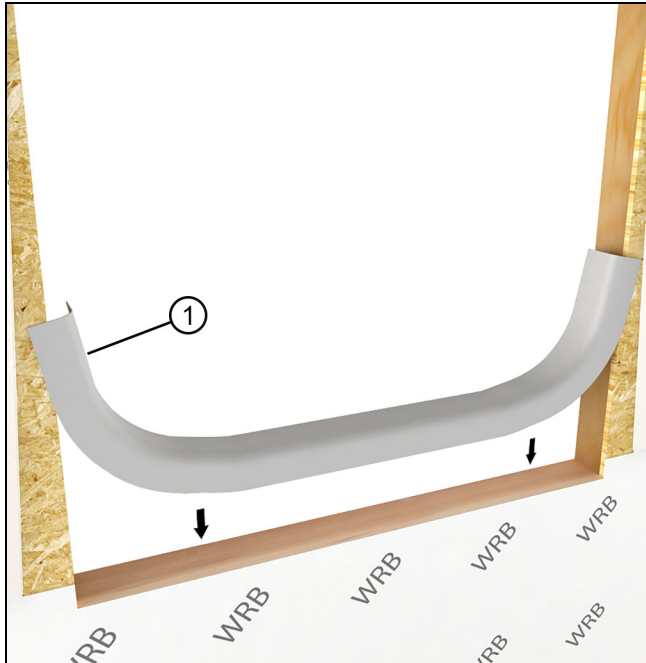

Figure 5
5. TYPE III Sill Pan Flash: Apply self sealing flexible membrane slope. See Figure 5.